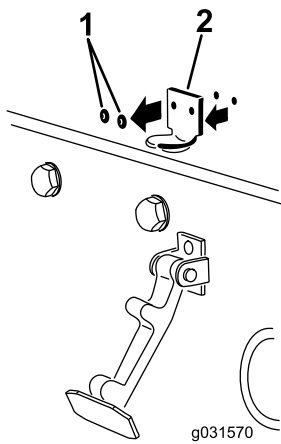

Figure 5
2. Remove the 2 rivets securing the hood-latch bracket to the hood (Figure 5).